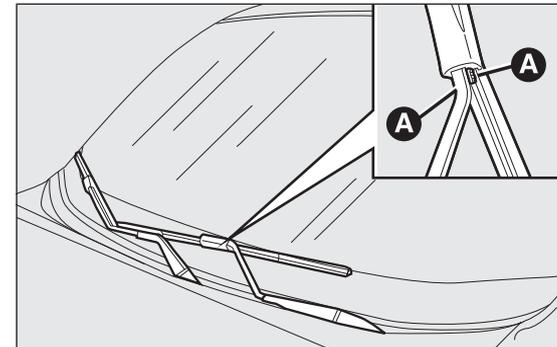

fig. 174
- press tabs A fig. 174 and remove the blade from the arm;